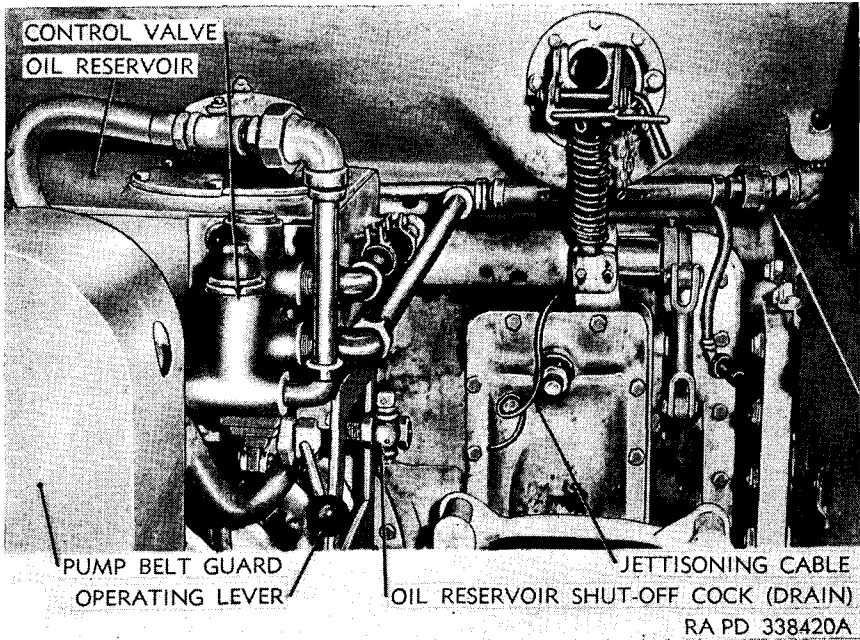
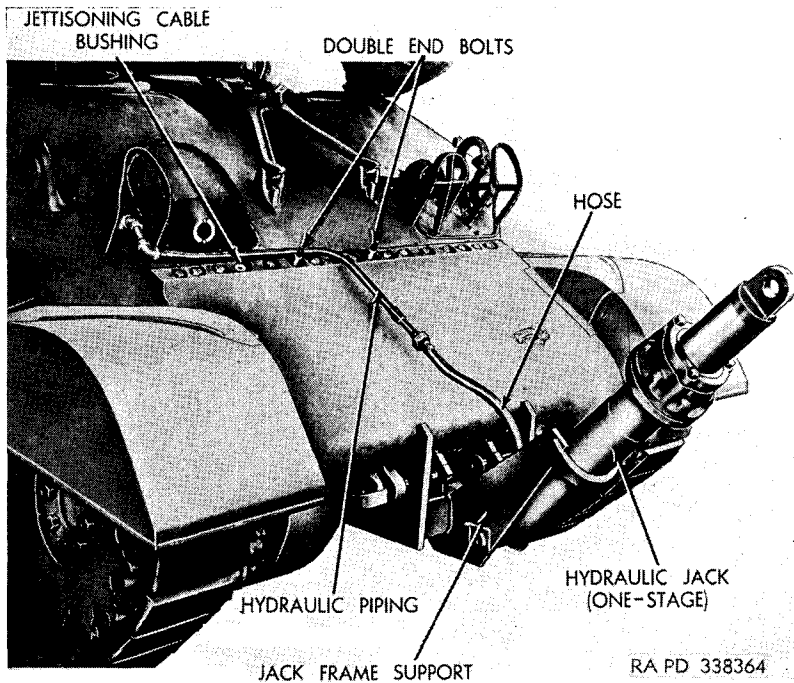

Figure 30. Assistant operator's compartment.
Figure 31. External hydraulic line connected to jack.
a. **INSTALL HYDRAULIC PIPE LINE THROUGH HEADLIGHT SOCKET.** Disconnect and remove right headlight from tank. It will not be reinstalled. Assemble the hydraulic line piping through headlight socket and couple to flexible hose inside the tank (fig. 30) and connect external piping (figs. 31 and 32).